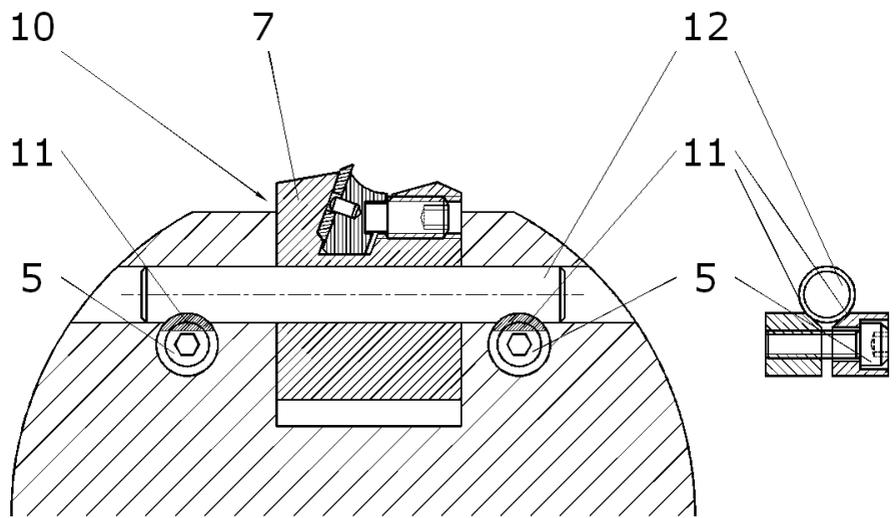

Fig. 7
2. Loosen screws (5) or nut (6) with an Allen key only so far until the swivel element can be turned.
3. Set swivel element via adjustment scale (10) to the desired angle position.
4. Make sure that before tightening the screw (5), the clamping surfaces (11) of the clamping bodies are aligned parallel to the spindle (12); (see Fig. 7).
5. Tighten screws (5) or nut (6) with a suitable torque wrench to the required torque of 6 Nm for the screws or 15 Nm for the nut.